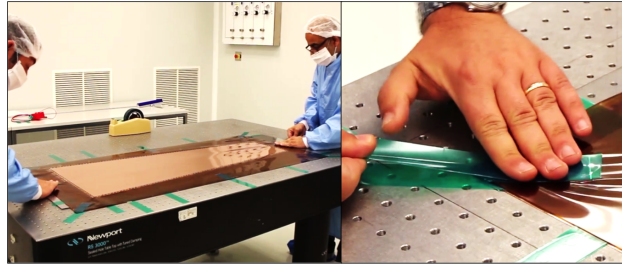

Figure 68: Pre-stretching GEM2.
Step 19: Use the green tape to pre-stretch the foil in opposite directions, starting from the large and the small bases of the trapezoid. (Fig. 68). Continue stretching all around the stack until the foil becomes mirror flat.